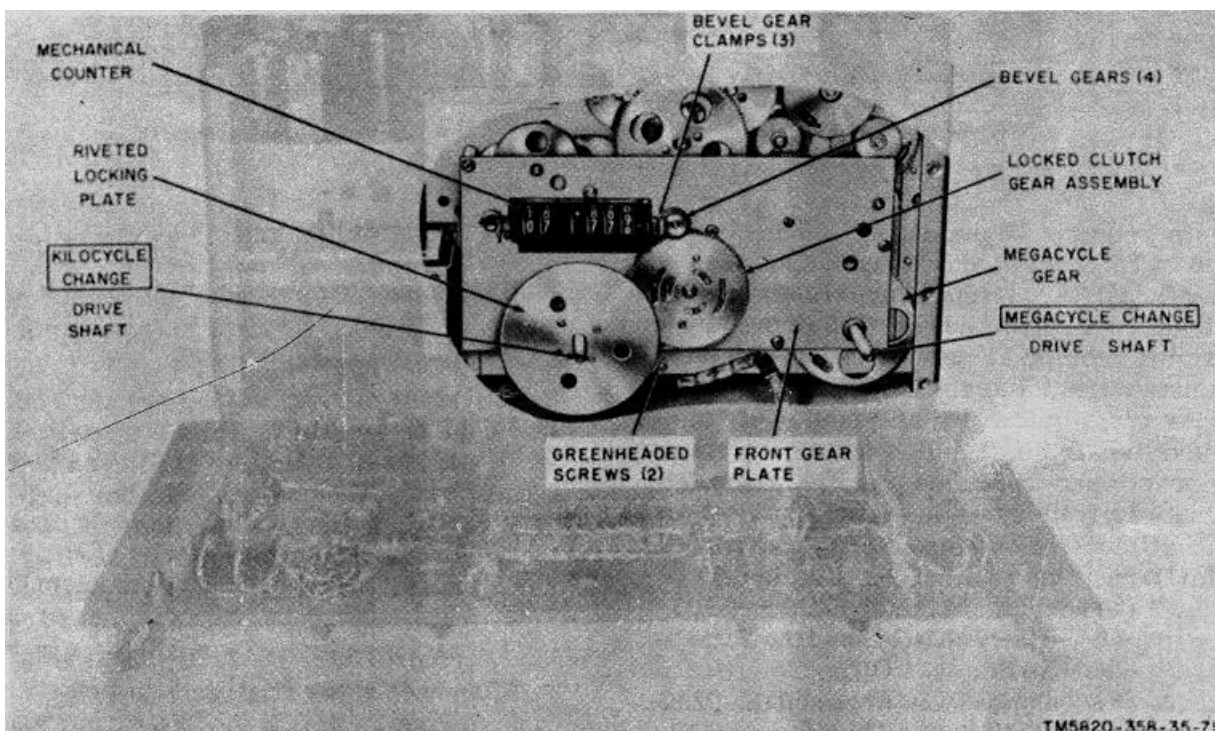
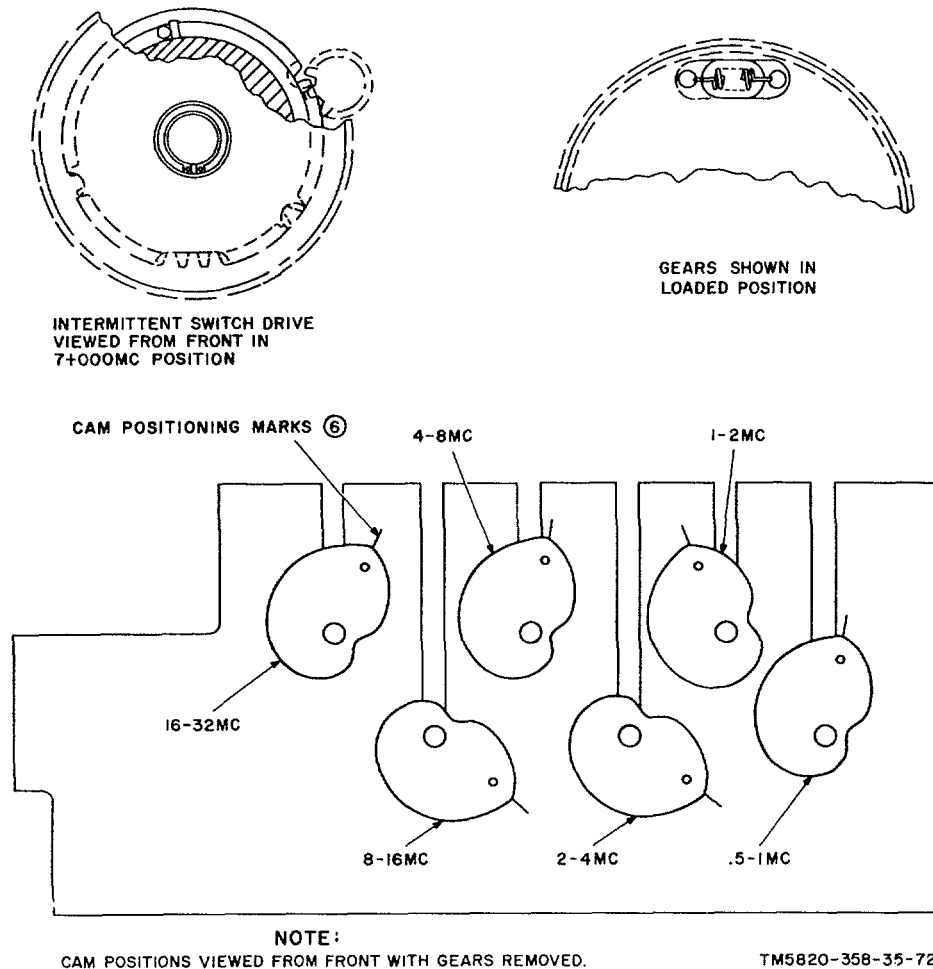

Figure 67. Rf gear train assembly, location of parts.
Figure 68. Mechanical alignment details.
(fig. 67 through 70)
- (1) Set the MEGACYCLE CHANGE and KILOCYCLE CHANGE controls for a frequency-indicator reading of 07 +000. The camshafts are synchronized if the cam positioning marks on the pressed cam plates line up with the points of the cams and the intermittent switch drive gears are as shown in figure 68.
- (2) If all the cams line up at some other frequency indications, perform the following:
- (b) Loosen the two bevel gear clamps on the mechanical counter (fig. 67).
- (3) If one cam does not line up with the cam position mark, perform the following:
e. Turn the ZERO ADJ control fully clockwise to the stop, and check to see that the locked clutch gear assembly (fig. 67) is disengaged. Do this by rocking the KILOCYCLE CHANGE control back and forth and observing the reading of the frequency indicator to see that it does not change.